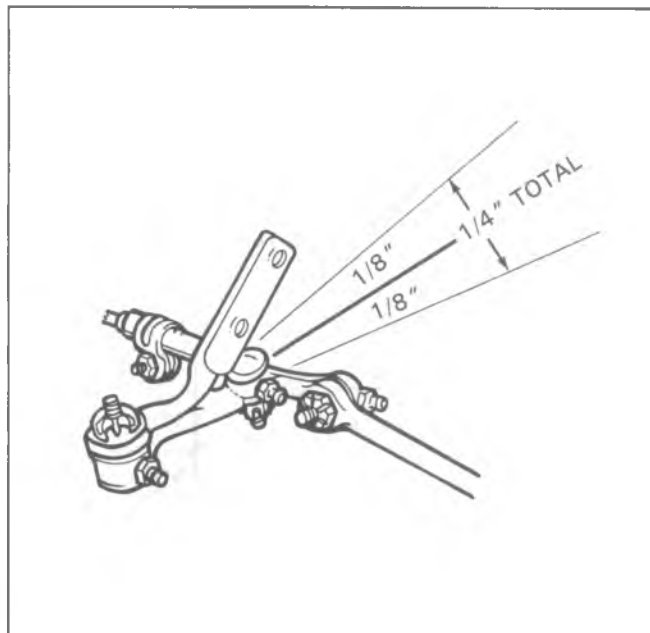

Fig. 3B1-10-Checking Idler Movement, Typical
2. Using a push pull type spring scale located as near the relay rod end of the idler arm as possible, exert a 25 lb. force upward and then downward while noticing the total distance the end of the arm moves. This distance should not exceed $\pm 1/8$ inch for a total acceptable movement of $1/4$ inch (Figure 3B1-10). It is necessary to ensure that the correct load is applied to the arm since it will move more when higher loads are applied. It is also necessary that a scale or ruler be rested against the frame and used to determine the amount of movement since observers tend to over-estimate the actual movement when a scale is not used. The idler arm should always be replaced if it fails this test.